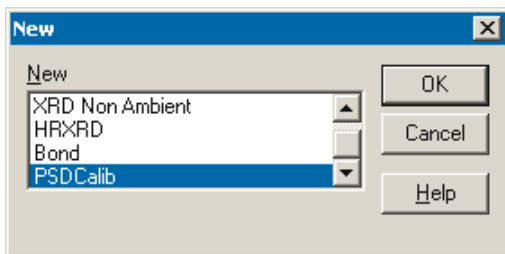

Figure 8.1 XRD Wizard > File > New
3. Select **PSDCalib** from the new menu files. Click **OK** (see Figure 8.1).